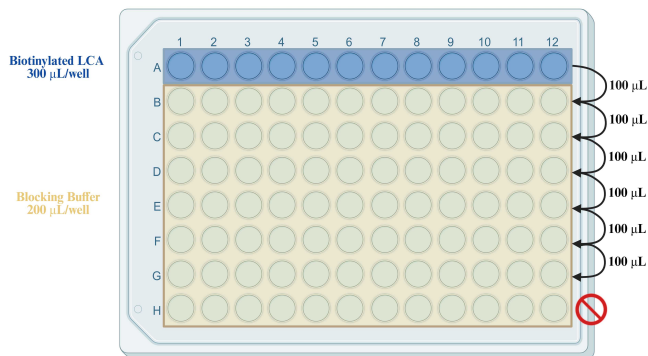

Figure 3: Schematic Representation of 1:3 Vertical Serial Dilution
- 7.10 Follow the steps below to prepare serial 1:3 dilutions in the dilution plate, as shown in **Figure 3**.